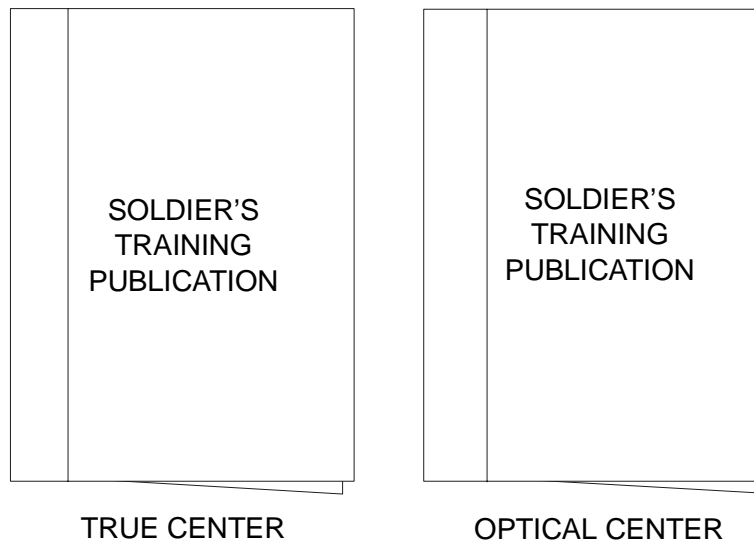

Figure D-5. A comparison between work placed in the optical center with work placed in the true center.
(4) Another issue that impacts legibility is spacing between words. Generally speaking, there must be enough space to separate words from one another, but not so much as to cause us to read one word at a time. Use a small o (the size of the text you are using) as a spacing guide.
(5) Centering lines is an effective means of drawing attention to information. One method to center your work is to letter the line on a piece of scratch paper using the desired size and style. Once written, it is just a matter of measuring the distance from the center to the beginning of the line and transferring that measurement to the project. Figure D-5 provides a comparison between work placed in the optical center (the text on the right) with work placed in the true center (the text on the left). Notice that the work in the true center appears below the center, while the work in the optical center appears balanced.